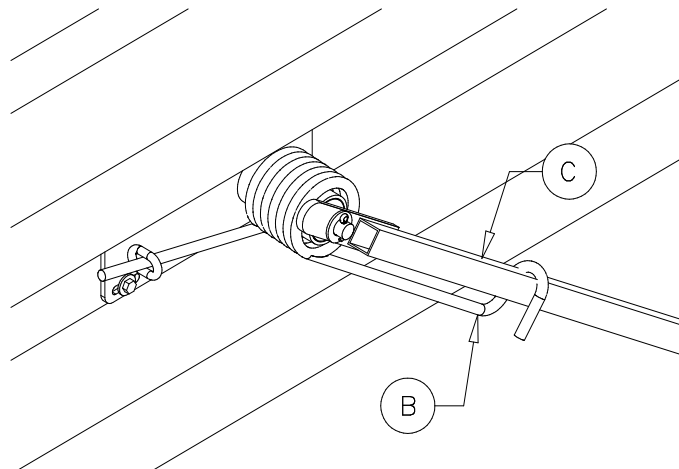

Figure 16
Position the bottom pivot arm (C) so it is hooked in the helical torsion spring (B) (see Figure 16).